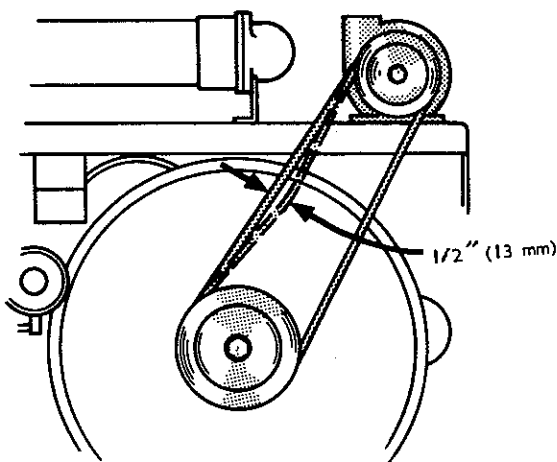

FIGURE 6-36. PUMP BELT TENSION
15. Install belt over pump and drive pulleys. Adjust pump to allow about 1/2 inch belt deflection (Figure 6-36) and secure pump in position.
9. Install belt over pump to allow about 1/2-inch deflection to belt, Figure 6-36, and secure pump in position.